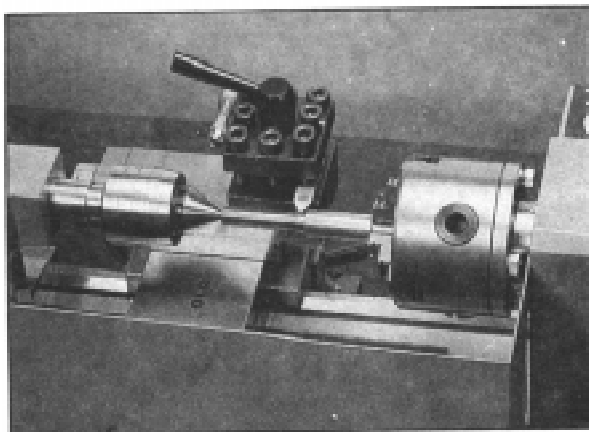

Fig. 13.
1. Use the chuck to hold the workpiece firmly (figure 13 below). Then, use the rolling center to fix the other end. If you change the rolling center to drilling chuck you can start your drilling immediately.